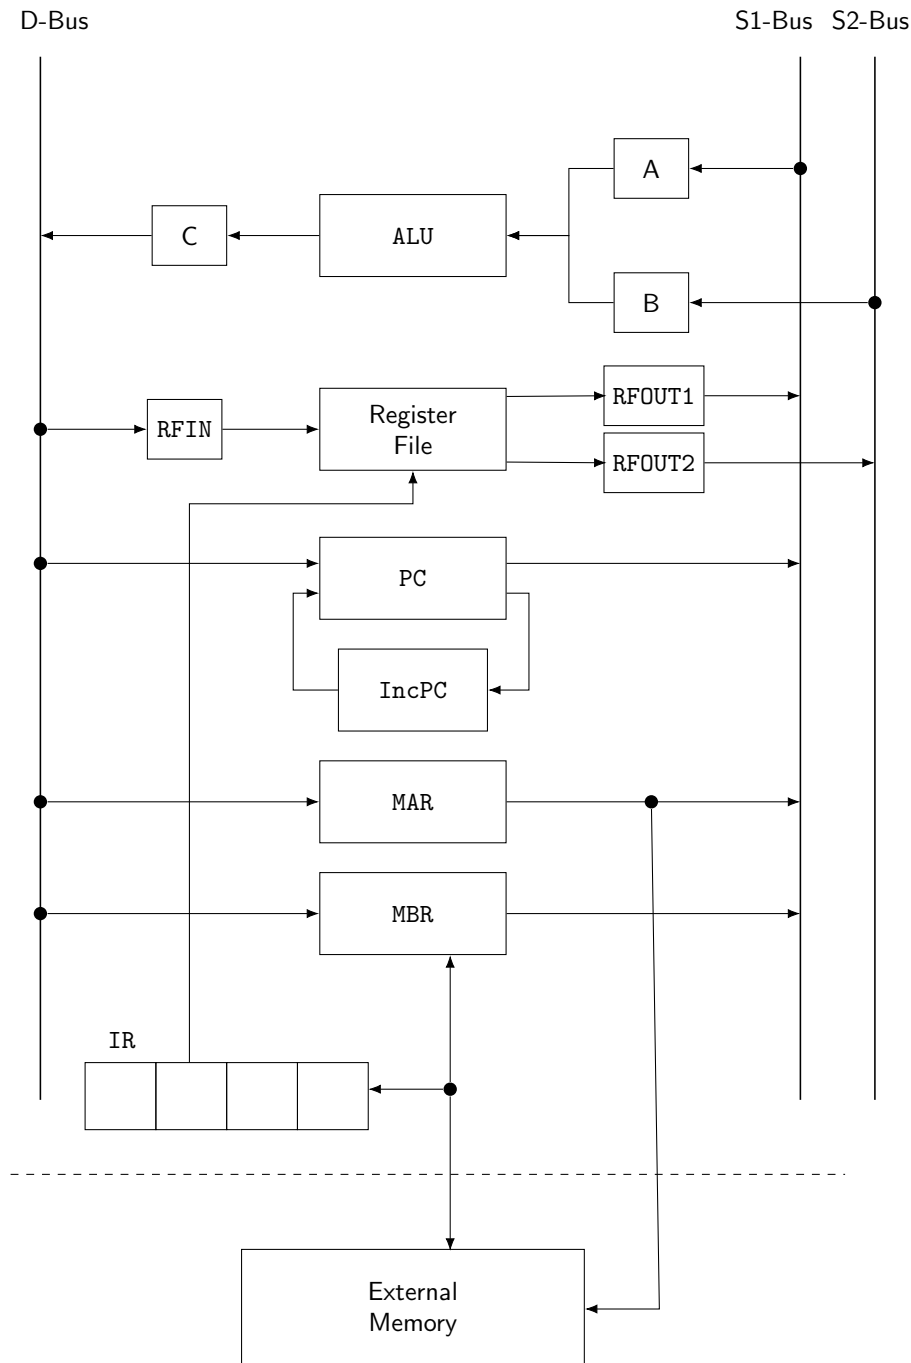

Figure 1: A simplified CPU
1. Consider a simple 32-bit processor with the data path as shown in fig. 1. The processor has 32 general purpose registers. There are 3 buses, S1-bus, S2-bus and D-bus connecting the registers for data movement. The register files has 2 read ports and 1 write port (i.e. it can perform 2 read and 1 write at the same time).